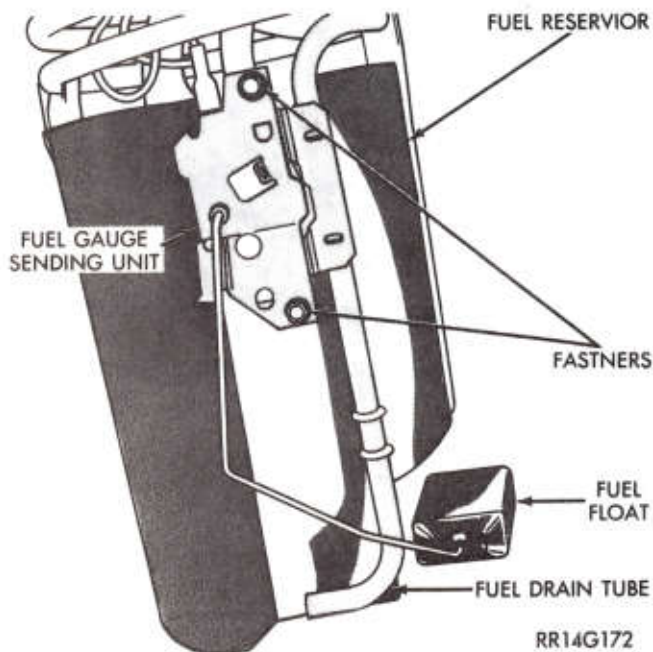

Fig. 12—Fuel Gauge Sending Unit
The fuel gauge sending unit is attached to the fuel pump module (Fig. 12). The fuel pump module must be removed to perform this operation. Refer to fuel pump module removal of this section.
- (1) Remove level unit retaining screws (2) from mounting bracket on drain tube (Fig. 12).